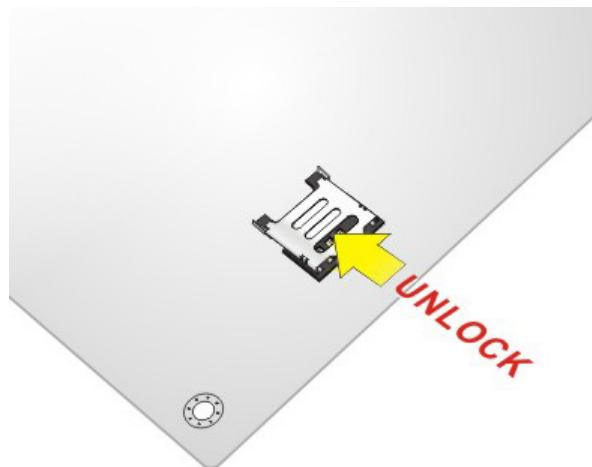

Figure 4-5: Unlock SIM Card Slot Cover
Step 2: Unlock the SIM card slot cover by sliding the cover in the direction as shown by the arrow in **Figure 4-5**.